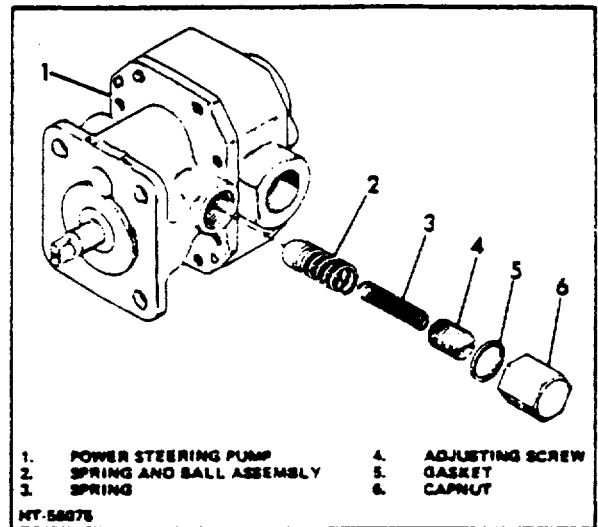

Figure 1-5. Power Steering Pump
6. To adjust pressure, remove cap nut (Fig 1-5) from adjusting screw in power steering pump. Turn adjusting screw IN to increase pressure or OUT to decrease it.